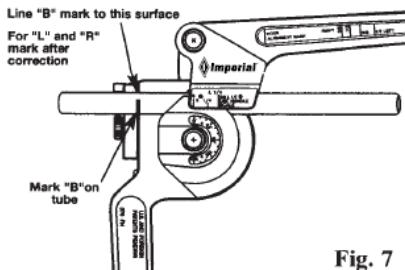

Fig. 7
**Subtract** from the original mark "L" the appropriate length, and place a second mark "B" on the tube. This second mark "B" should be placed on the right edge of the tube-clamping hook as shown in Fig. 7.
For bends to the right of the tube clamping hook, place mark "R" on the tube in the same manner as required for the 1/4" size. **Add** to your mark the distance shown in Table 2, placing a second mark "B" on the tube. This second mark "B" should be placed on the right edge of the tube-clamping hook as shown in Fig. 7.
**Example** — See Fig. 8 for a bend left of the tube clamping hook, using 3/8" tubing. Measure the required distance from the end of the tube and place mark "L". Measure the handle to the tube with mark "L" adjacent to the 3/8" Left mark. Make a second mark "B" on the tube adjacent to the "HOOK ALIGNMENT MARK". Place tube in bender with the second mark "B" aligned with the right edge of the tube clamp hook (Fig. 7).